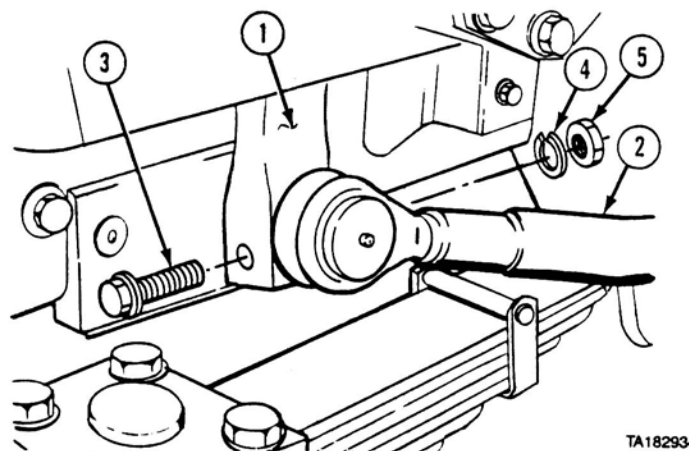

Figure 41. Re-install the drag link.
13. Spread the slot in the pitman arm (see Item 1 in Figure 41) and install one end of the drag link (2) into the pitman arm.
14. Install the screw (3), lockwasher (4), and nut (5) through the pitman arm and torque it to 70-80 ft-lb.